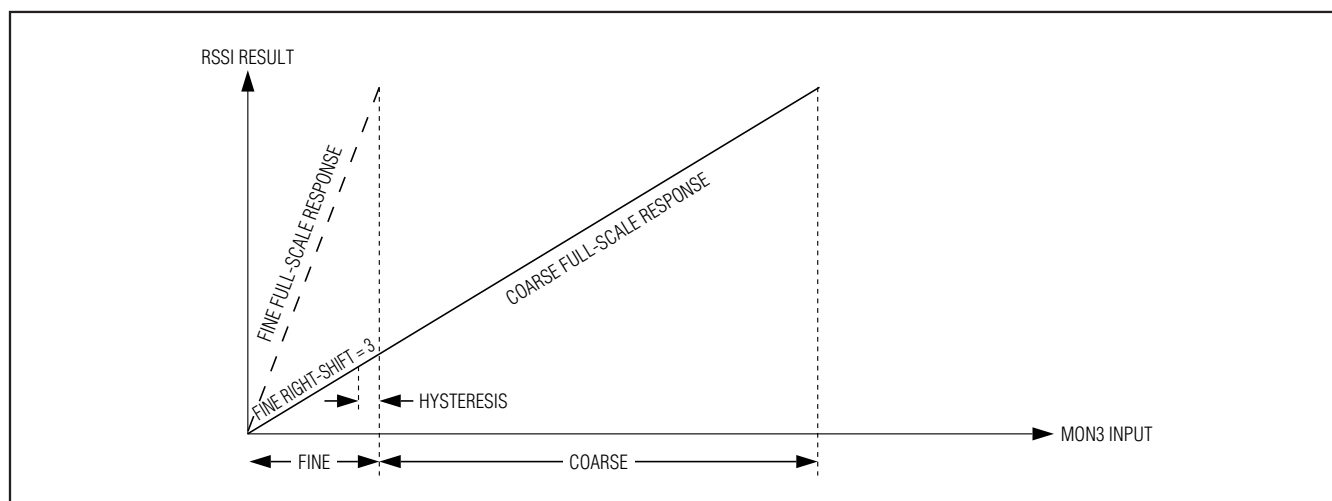

Figure 9. RSSI with Crossover Disabled
- **Crossover Disabled:** The crossover disabled mode is intended for systems with a linear relationship between the MON3 input and desired ADC result. The ADC result transitions between the fine and coarse ranges with hysteresis (Figure 9). In crossover disabled mode, the thresholds between coarse and fine mode are a function of the number of right-shifts being used. With the use of right-shifting, the fine-mode full scale is programmed to (1/2nth) of the coarse-mode full scale. The device now auto ranges to choose the range that gives the best resolution for the measurement. Table 4 shows the threshold values for each possible number of right-shifts.